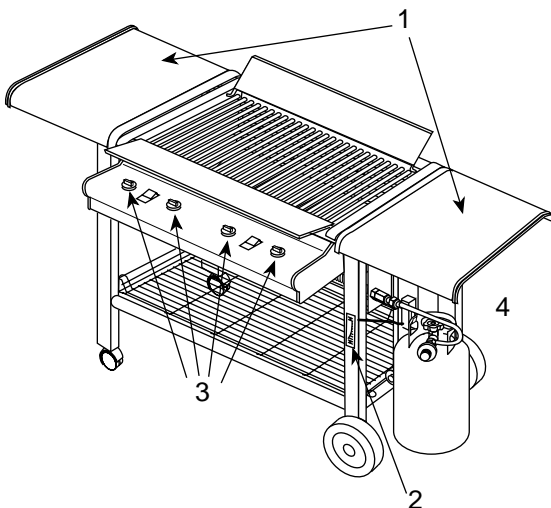

Figure 1
- 1) Open the sliding work surfaces and splash guards. Figure 1.